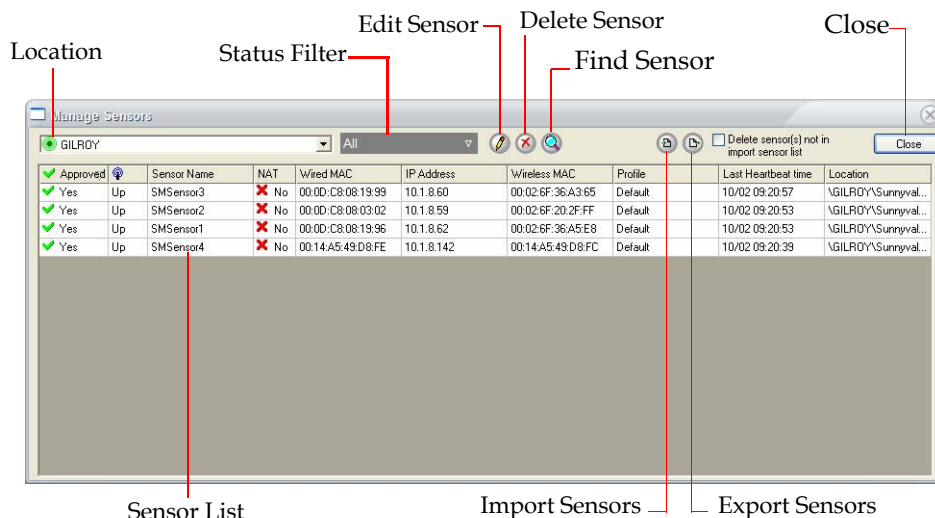

Figure 4-39: Manage Sensors screen
- 1) From the AirMagnet Enterprise Console, click **Manage>Sensors**. The Manage Sensors screen appears. See Figure 4-39.